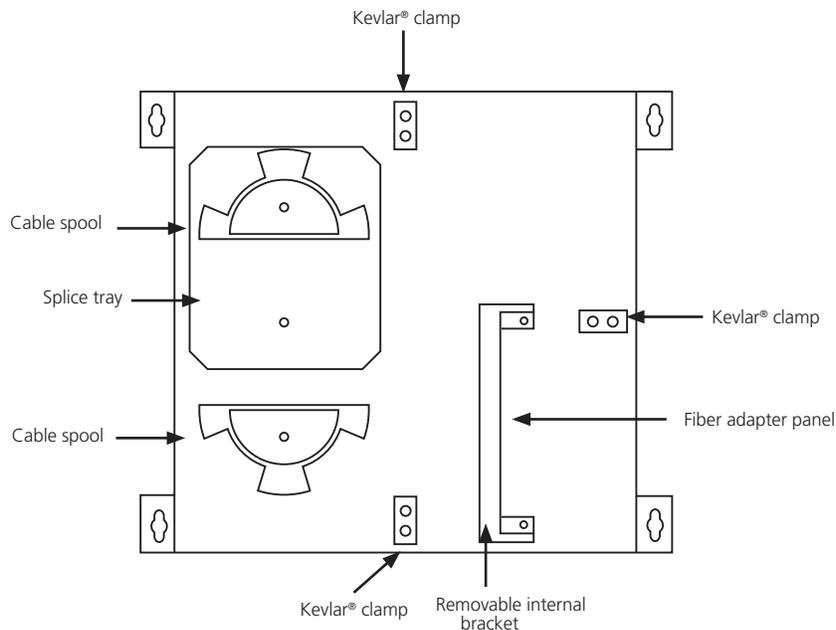

Figure 2. Inside the enclosure.
5. Open the enclosure's door and note the internal component locations. As shown in Figure 2, you will see one fiber splice tray and two semicircular rings for fiber cable management splicing. You can remove the splice tray and cable management rings and configure them in multiple ways to suit your application..